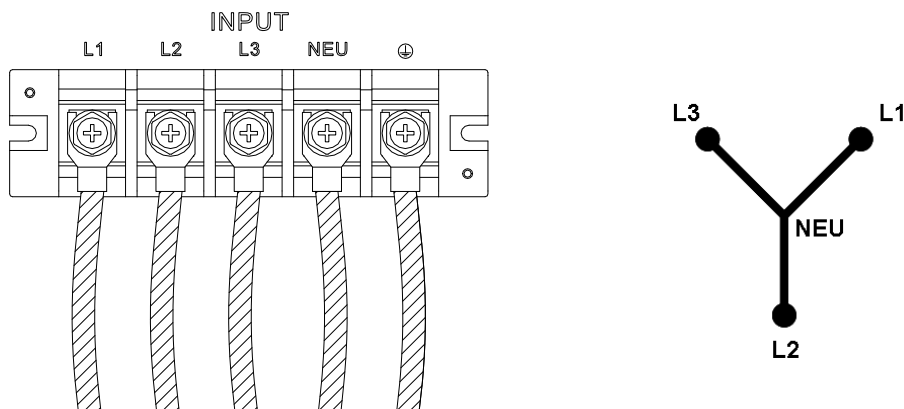

Figure 2-2 3-Phase Power Input Connection (Y Connection)
See Figure 2-2 and perform the steps below accordingly:
2. Connect the wire to the AC Source terminal blocks (see Figure 2-2.)